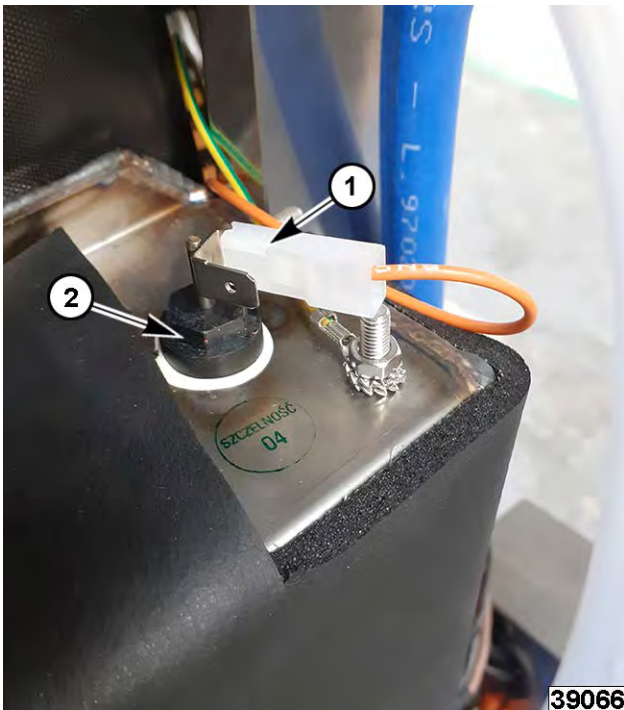

Fig. 28
3. Note and disconnect probe wiring (1, Fig. 28).
4. Unscrew probe (2, Fig. 28) with 13 mm wrench.